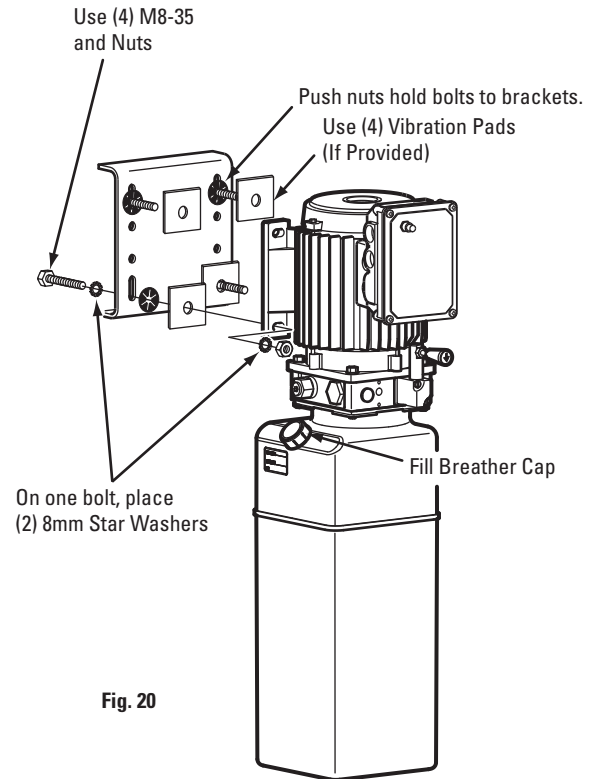
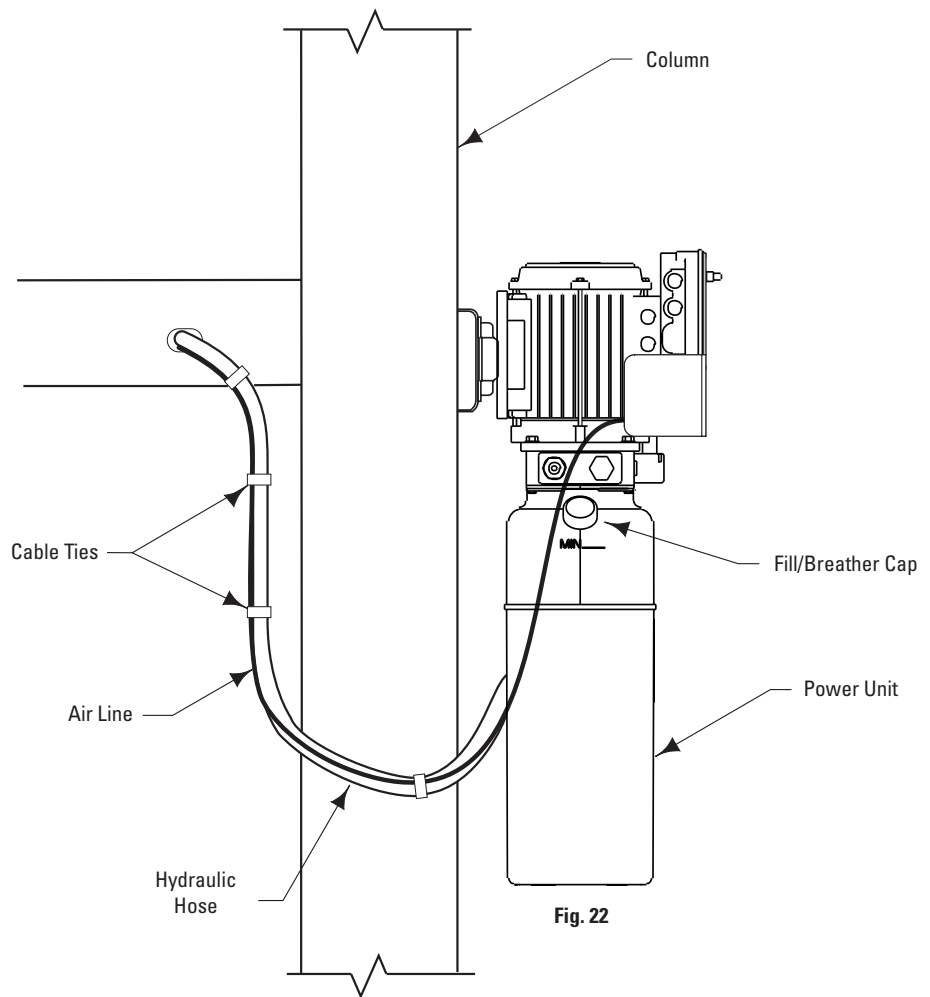

Fig. 20
Fig. 22
- A. Put (4) M8-35 hex bolts through holes in column bracket using push nuts to hold in place.
- B. Mount power unit, with motor up, to column bracket and install lock washers and nuts, Fig. 20. Run hydraulic hose from runway through slot in side of runway to power unit output port, Fig. 22. DO NOT use Teflon tape on hydraulic hose connections.
- D. Run hydraulic hose from runway through slot in side of runway to elbow, Fig. 22. DO NOT use Teflon tape on hydraulic hose connections. Clean elbow and hose. Inspect all threads for damage and hose ends to be sure they are crimped. Attach hose to elbow using Flared Fittings Tightening Procedure.
17. Oil Filling: Use Dexron III ATF, or hydraulic fluid that meets ISO 32 specifications. System capacity is fourteen (14) quarts. Use Dexron III ATF or equal. Fully lower lift. Remove fill/breather cap, Fig. 22. Fill to minimum fill line on tank, replace cap.
20. Bleeding: Lift must be fully lowered before changing or adding fluid. Raise and lower lift six times. The cylinder is self-bleeding. After bleeding system, fluid level in power unit reservoir may be down. Add more ATF or ISO32 hydraulic oil, if necessary, following instructions in Step 16. To pressure test, run lift to full rise and run motor for approximately 5 seconds. Stop and check all fittings and hose connections. Tighten or reseal if required. Lower lift. If fill/breather cap, Fig. 22, is lost or broken, order replacement.